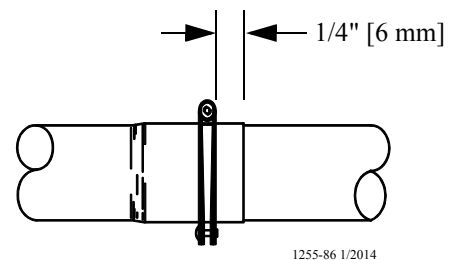

Figure 42. Clamp Installation
Continue down the entire length of the feeder line so that every joint is secured with a standard Clamp or Clamp/Anti-Roost Bracket. **Figure 42** shows the proper clamp location on the tube joint. **Do not tighten the clamp at this time.**
- make sure the clamps are located, as shown in **Figure 42.**